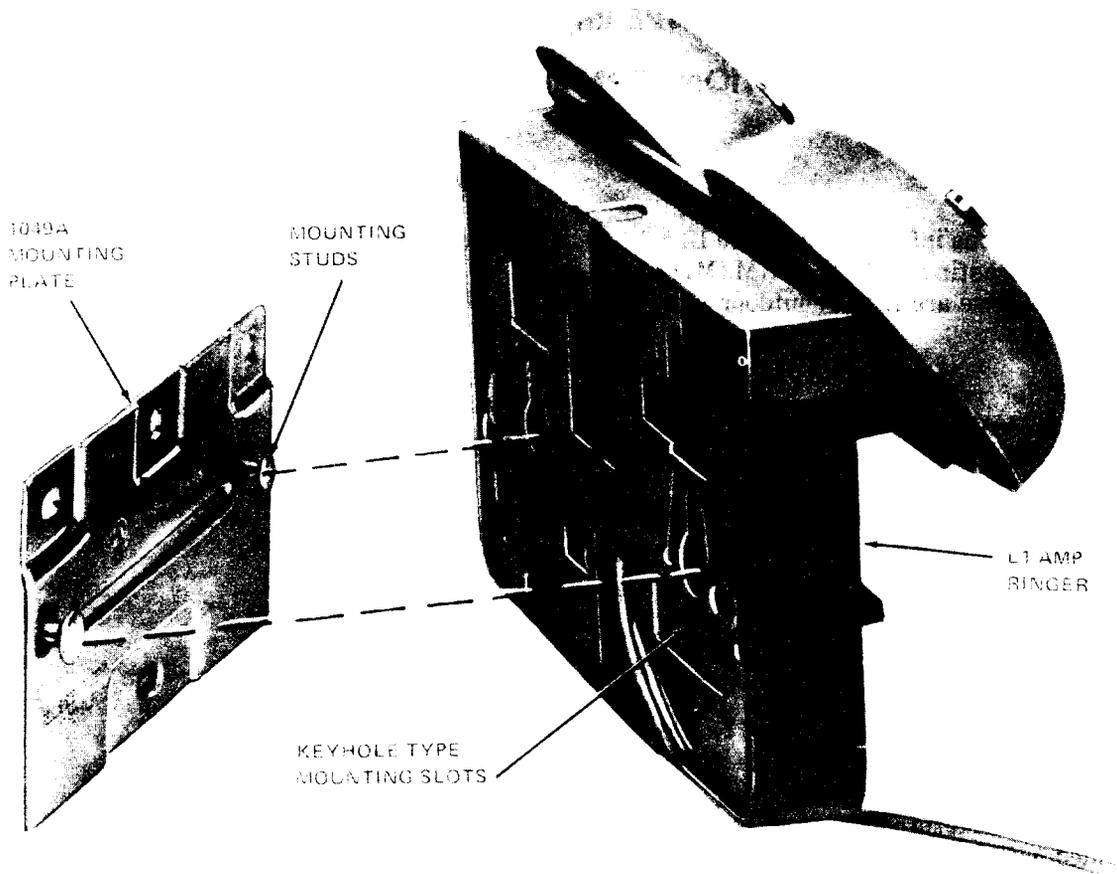

Fig. 2—L1AMP Ringer and Mounting Plate (Indoor Installation)
3.04 To mount ringer to mounting plate, align mounting plate studs with keyhole-type slots in ringer, press ringer down on mounting plate until mounting studs completely engage ringer (Fig. 2).